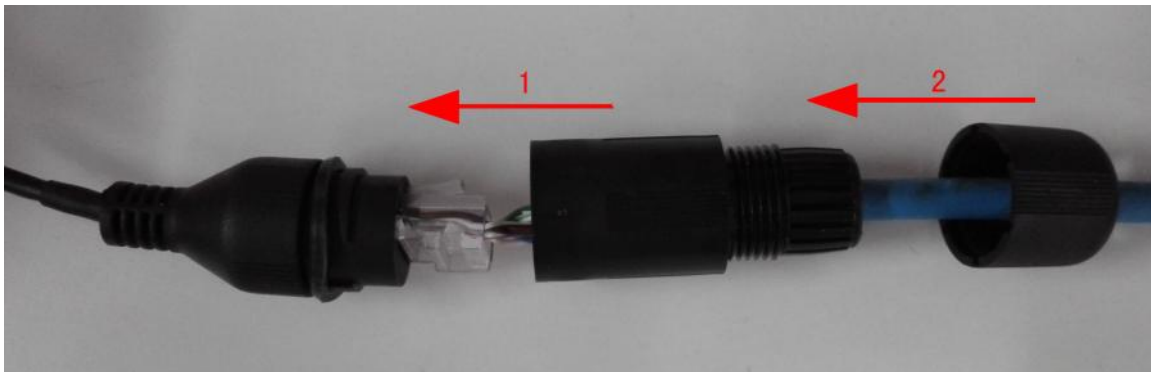

Figure 3-9
- 4) Insert the network cable to the network port and then follow the sequence marked in Figure 3-9 to fasten the jacket.